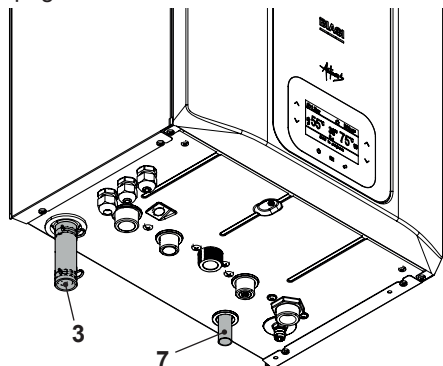

Fig. 6.4
- Connect the pipe 7 (Fig. 6.4) from the pressure relief valve to the safety discharge pipework.
- Fit the condensate drain 3 (Fig. 6.4) in to the drainage pipework.